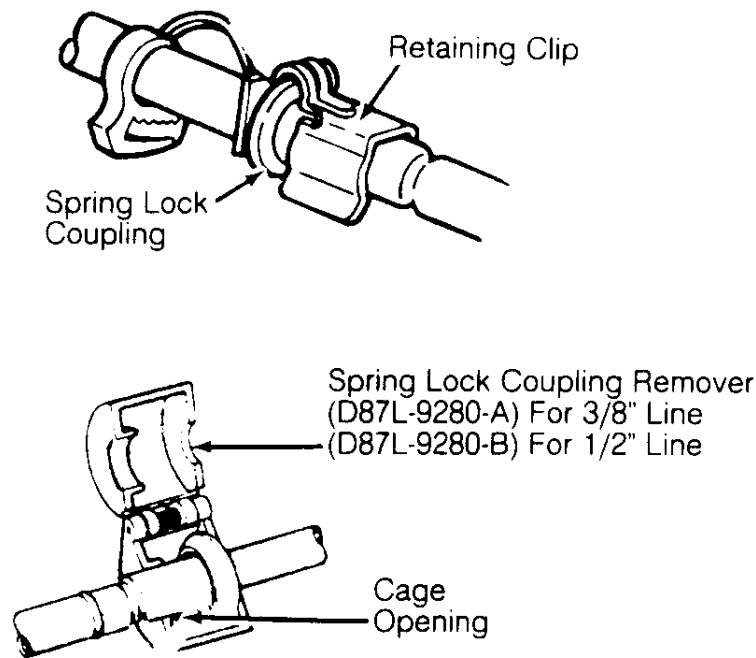

Figure 3
2. Disconnect necessary electrical connections, control cables, linkages, vacuum hoses, ventilation hoses, and coolant hoses at throttle body and manifold. **Do not disconnect fuel lines unless absolutely necessary. Special tooling and procedures are required to re-install fuel lines. See "Fuel Line Removal and Installation" Figure 3.**
3. Use Spring Lock Coupling Remover (D87L-9280-A) for 3/8" line or (9D87L-9280-B) for 1/2" line. Install spring lock coupling remover on fuel line coupling so it enters cage opening. See Figure 3.